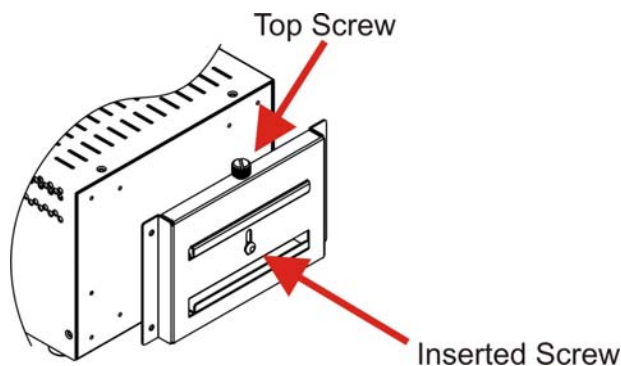

Figure 5-24: Screw Locations
Step 2: Make sure the inserted screw in the center of the bracket is at the lowest position of the elongated hole (**Figure 5-24**).